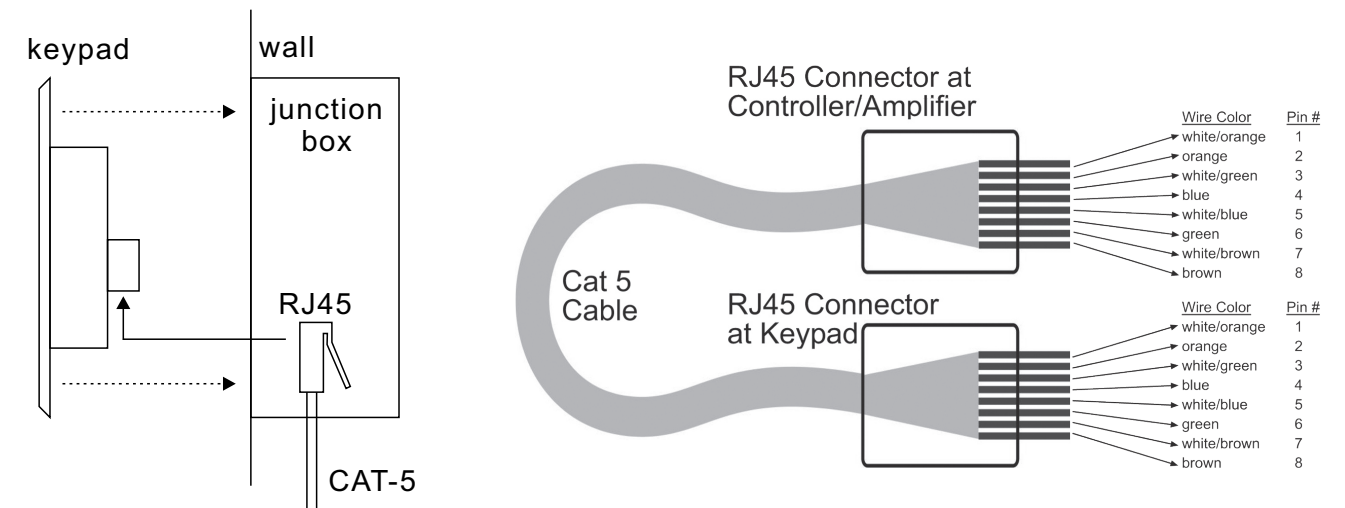

Figure 8: Audio Connections
13. **Zone Audio Input:** Stereo RCA Jacks for stereo line level audio input from source. (see Figure 8)